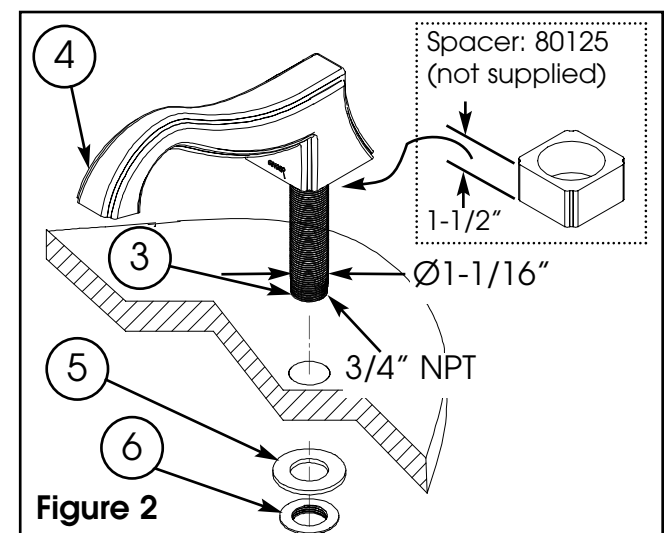

Figure 2
- Slide spout NIPPLE (3) through center hole of mounting surface. SPOUT (4) to be flush with deck.
- Secure into place with WASHER (5) and flange NUT (6). See Figure 2.